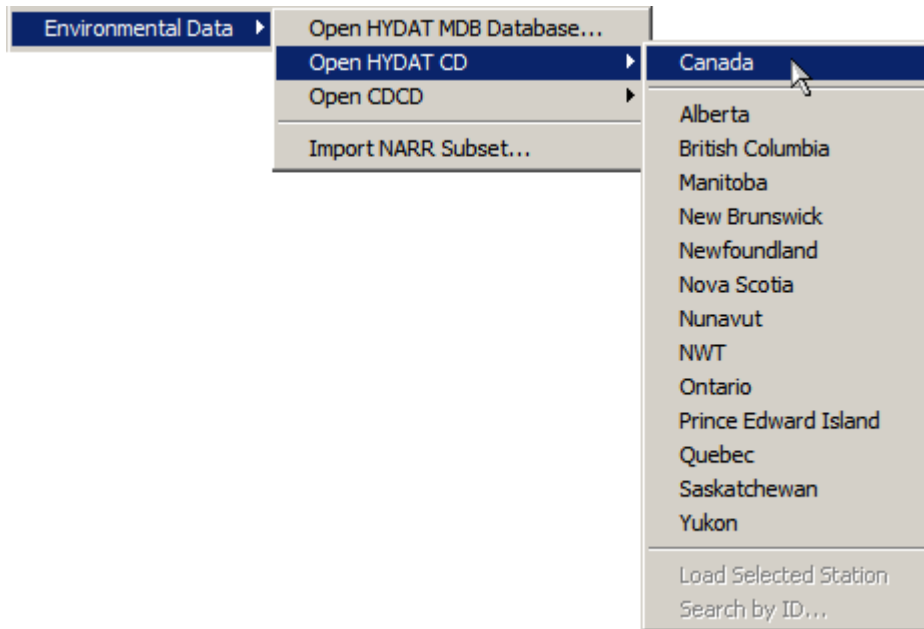

Figure 3.1: This menu is used to access the HYDAT database on CD
2. The HYDAT stations can be accessed for all of Canada, or by individual province. Select one of the choices shown in Figure 3.1.